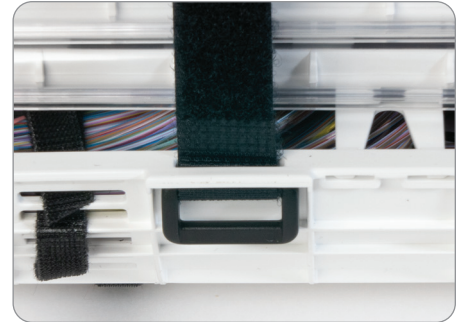

Figure 46
5. Pull the two Velcro straps through the horizontal and vertical strap slots soft side up. (Figure 46)